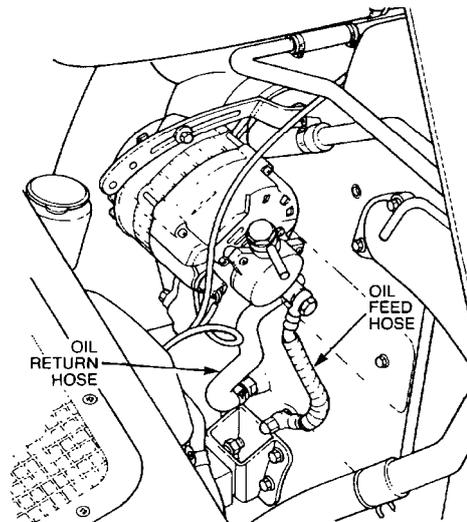

Figure 58 Installing the Vacuum Pump Oil Hoses
- vvv. Install the vacuum pump oil feed and oil return hose and adapters onto the engine block. Connect the oil feed and return hoses (Figure 58) ensuring that the hose connections are secure.